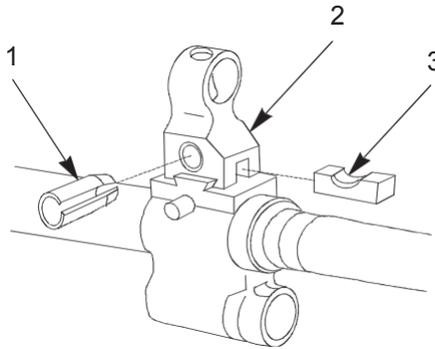

Figure 6. Removal of Front Sight Base.
7. Drive out spring pin (Figure 6, Item 1) from right to left side of front sight base (Figure 6, Item 2)
Using 5/16 punch and alternating strikes from top to bottom to reduce binding. Discard spring pin (Figure 6, Item 1).
8. Remove front sight base (Figure 6, Item 2) and key (Figure 6, Item 3)